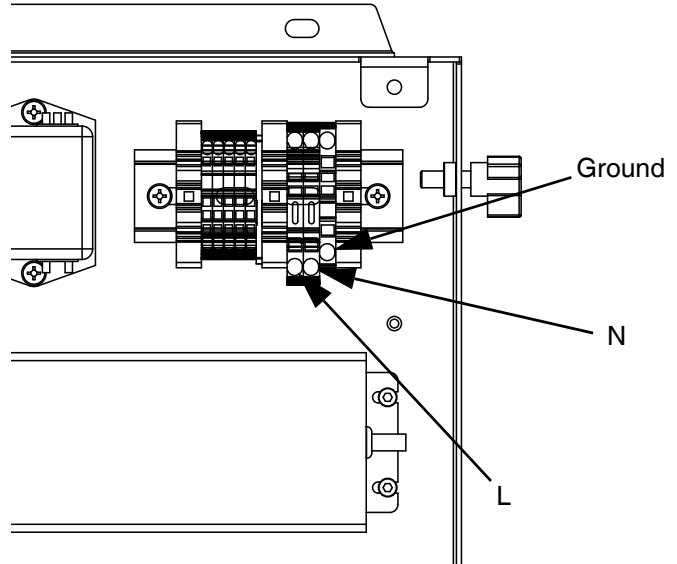

FIG. 14: 100-240 Vac Wiring
- For 100-240 Vac wiring refer to FIG. 14.